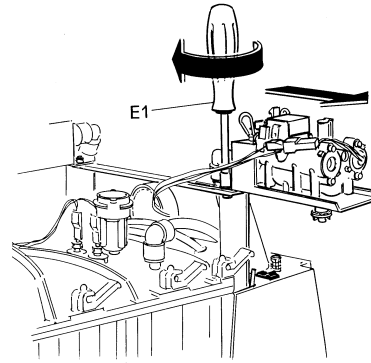

FIGURE 7
1. Rotate the valve assembly 90 degrees and slide to the outside of the machine. Tighten the 8mm nut using a socket wrench (E1), see FIGURE 7.